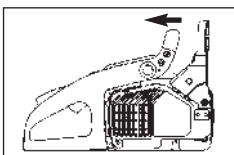

Fig. 3B
1. Make sure the CHAIN BRAKE lever is pulled back into the DISENGAGED position (Fig. 3B)